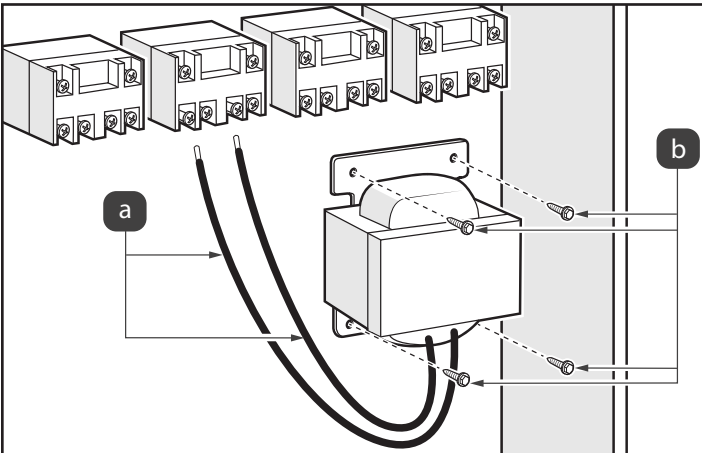

Figure 8. Remove Existing Transformer
5. Remove existing transformer wires from resettable fuses, see Figure 8(a)
6. Remove existing transformer retaining screws, see Figure 8(b)